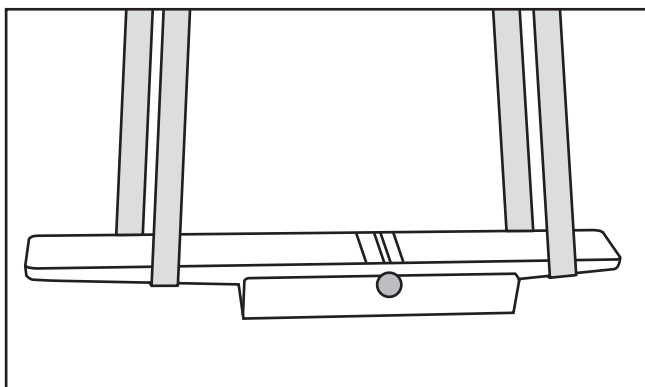

Figure 10. Using lifting straps to lift the jointer assembly.
12. Remove the (2) hex nuts and flat washers from underneath the shipping crate that hold the jointer assembly to the crate.
13. Wrap the lifting straps around the infeed and outfeed table, as illustrated in **Figure 10**, then attach them to the forklift or hoist.